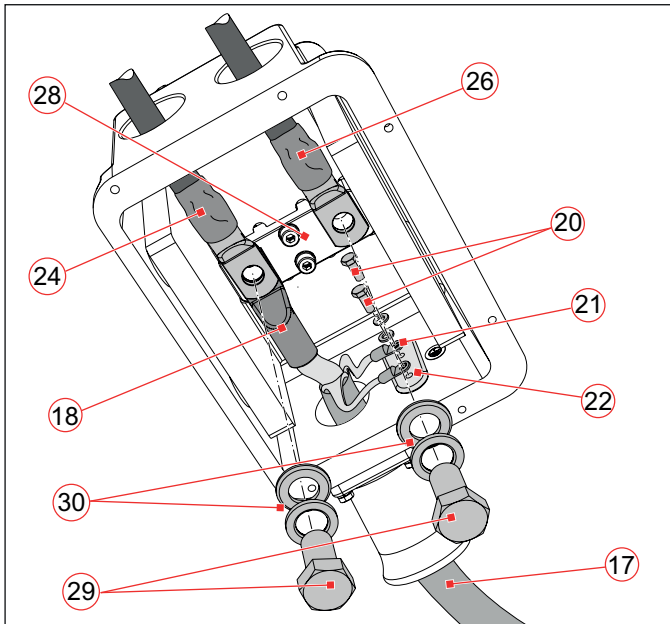

Fig. 25: Example for the connection of the single ended connector cable, junction cable and train bus bar with a horizontal connecting piece
- ▶ Insert the single ended connector cable (*Fig. 25/17*) into the cable junction box.
- ▶ Screw the 2 cable lugs (21) of the two earthing cables with screws (20) and spring lock washers to the earthing terminals (22).
- ▶ Insert the junction cable (24) and the cable of the train bus bar (26) through the cable exits.
- ▶ Screw the cable lug of the single ended connector cable (18) together with the cable lug of the junction cable (24) (like shown for example in *Fig. 25/18,24*) with screw (29), washer and spring lock washer (30) to the left terminal at the connecting piece (28).
- ▶ Screw the cable lug of the train bus bar (26) (like shown for example in *Fig. 25/26*) with screw (29), washer and spring lock washer (30) to the right terminal at the connecting piece (23).